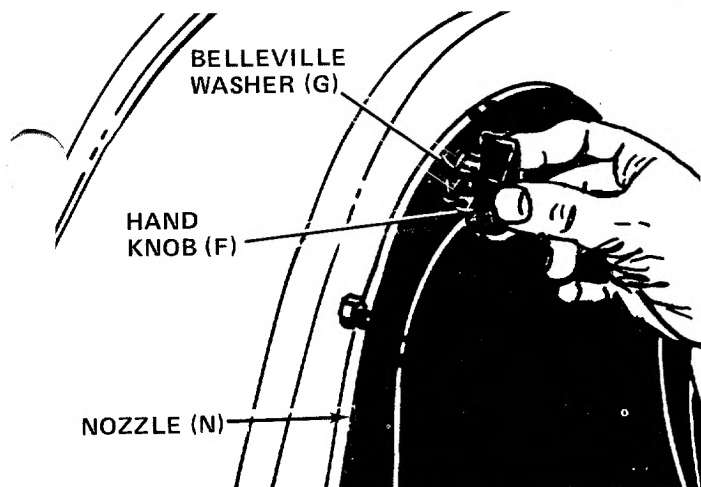

FIGURE 4
1. Place nozzle (N) in position on front of housing so that it rests in flanges. Secure with one hand knob (F) and belleville washer (G). See figure 4.